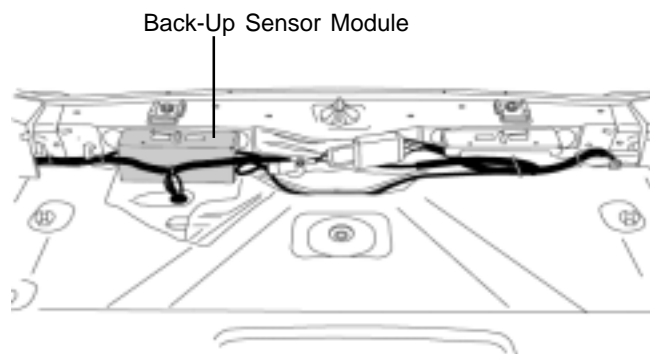

Figure 28.
- 13.) Press the back-up sensor module firmly into position under the bracket (Figure 28.).